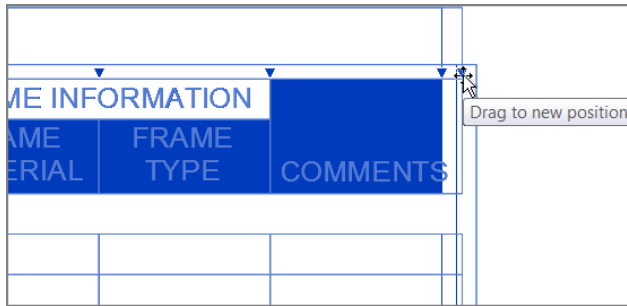

FIGURE 11.20: Pick the triangle grip to give the COMMENTS field some more room.
7. Zoom in on the top of the schedule, as shown in Figure 11.20, and select the schedule.